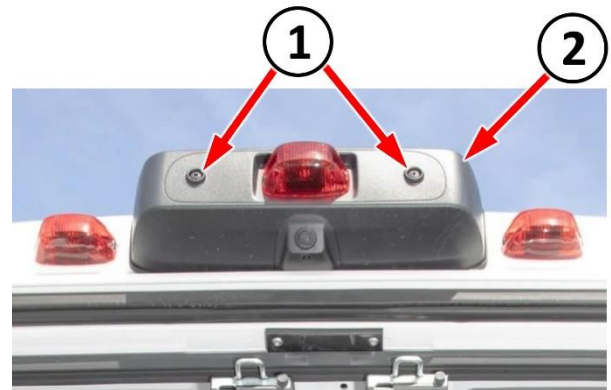

Figure 11 – Clearance Lamp Housing
7. Remove the two screws (1) from the clearance lamp housing (2) (Figure 11)
8. Separate the clearance lamp housing (2) from the mounting bracket to access the electrical connector on the back side (Figure 11).
15. Position the clearance lamp housing (2) to the mounting bracket (Figure 11)
16. Install and securely tighten the screws (1) securing the clearance lamp housing (2) to the mounting bracket (Figure 11).